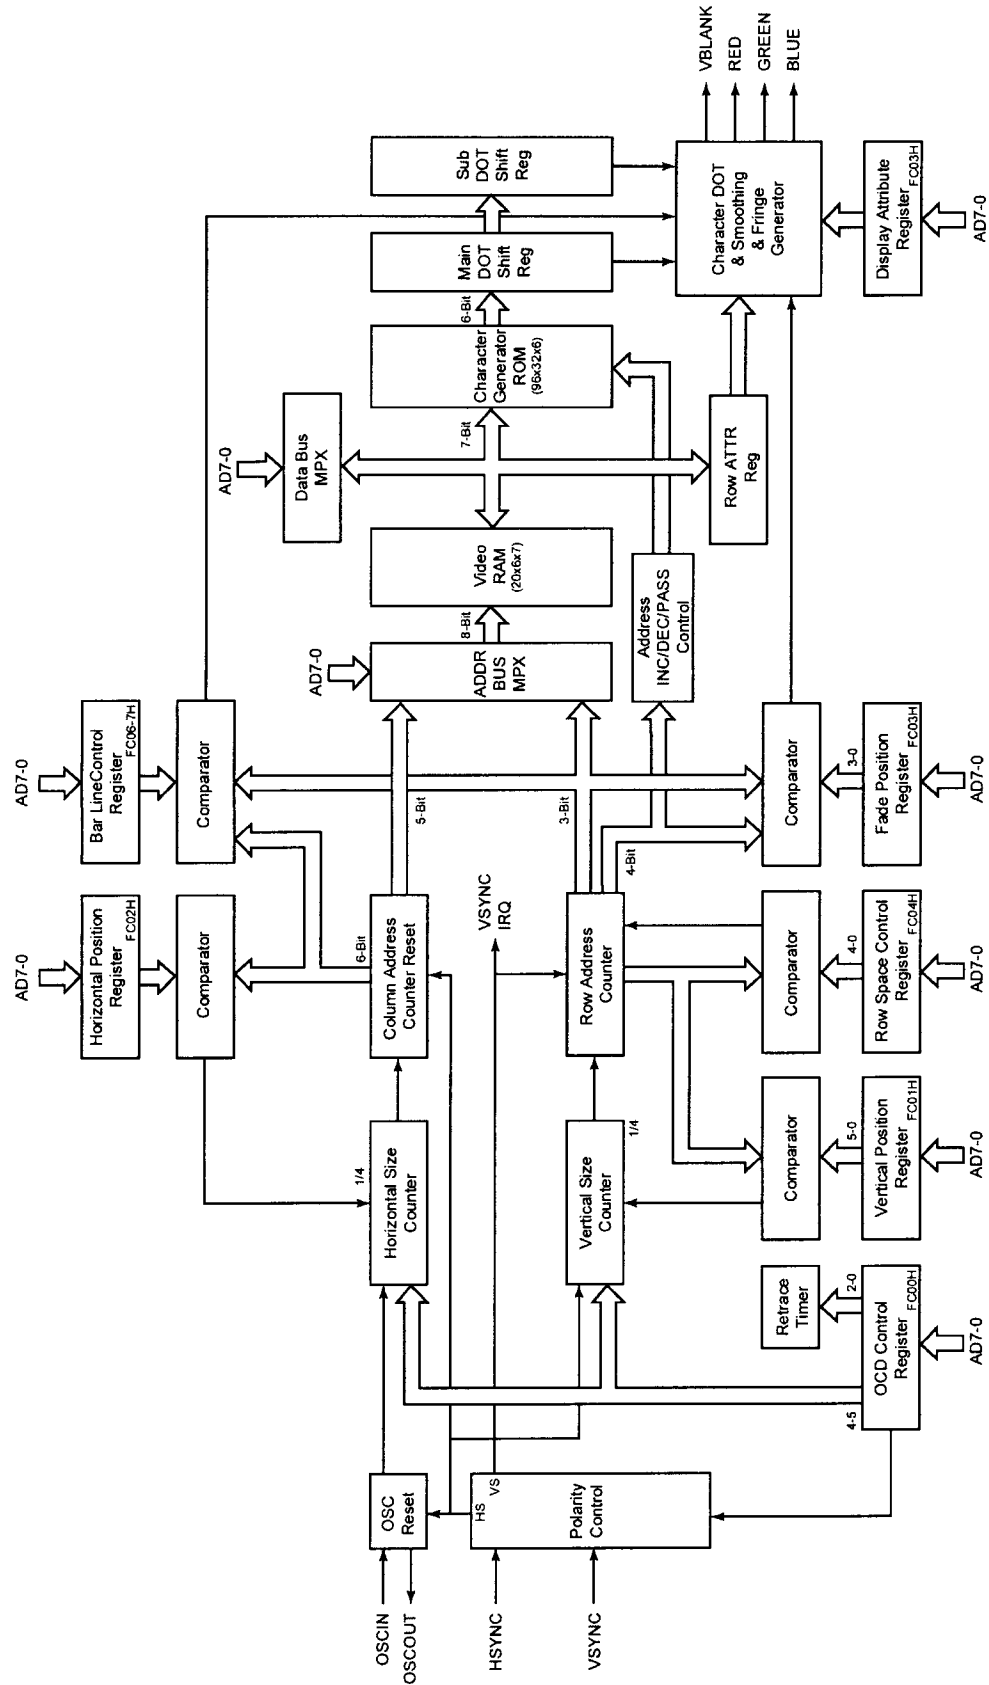

Figure 10. On-Screen Display Block Diagram
**On-Screen Display (OSD).** The OSD features a capability of displaying 8 rows x 20 columns of 96 kinds of characters for high-resolution (11 x 15 dots) patterns (Figure 10 and Figure 11).